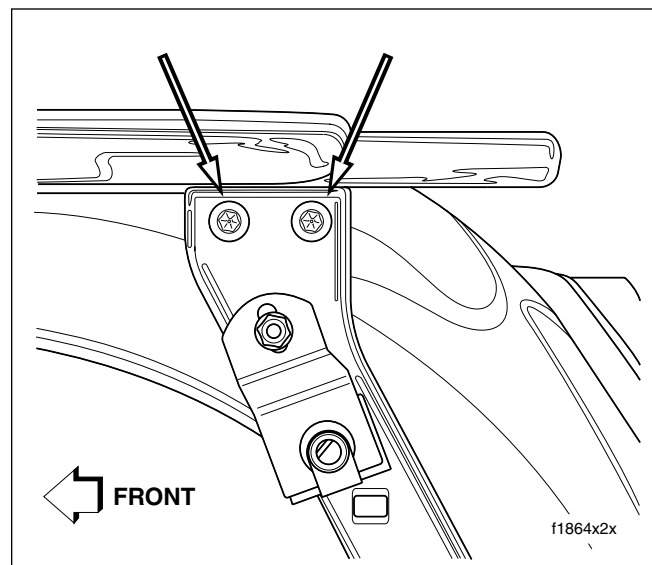

Figure 2-194. Saddlebag Support Bracket Screws (T40 TORX) - Left Side View
12. Remove upper rear screw from saddlebag support bracket. Repeat step on opposite side of motorcycle. See Figure 2-194.
2. Obtain ratchet and T40 TORX head bit. Engaging hole of fender rear spacer nut, start upper front screw in saddlebag support bracket. Repeat step on opposite side of motorcycle. See Figure 2-194.